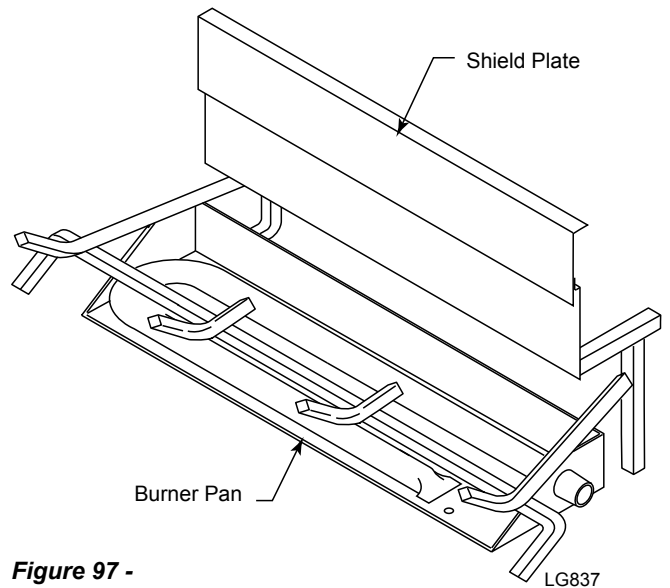

Figure 97 - Slide Shield Plate Behind Burner Pan
1. Slide shield plate behind burner pan. *Figure 97*